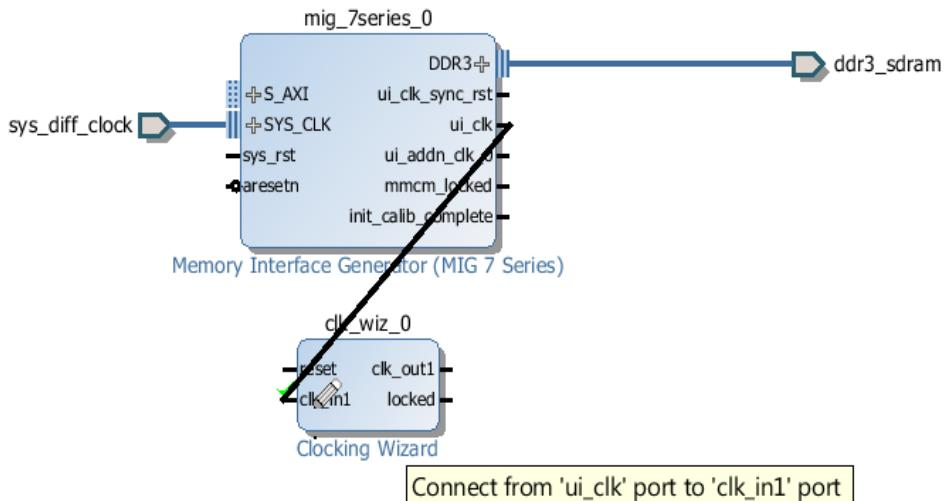

Figure 5-10: **Connect ui_clk to clk_in1**
1. Connect the **ui_clk** or **ui_addn_clk_0** output of the MIG IP, as well as any other clocks generated, to the **clk_in1** input of the Clocking wizard, as shown in Figure 5-10, page 126.